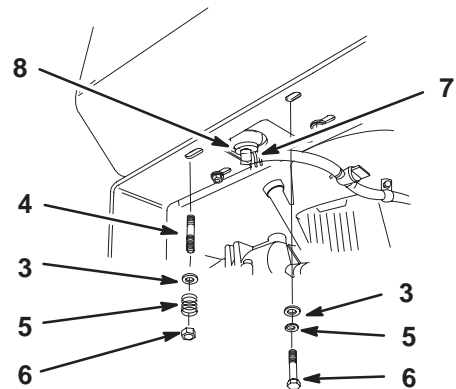

Figure 2
1. Align fuel tank to top of rear frame and secure fuel tank right side with 2 bolts (5/16 x 7/8 in. (22 mm)), 2 lock washers (5/16 in.) and 2 washers (5/16 in.) (Fig. 2).
2. Secure fuel tank left side to frame with 2 studs (5/16 x 7/8 in. (22 mm)), 2 washers (5/16 in.), 2 springs and 2 locknuts (5/16 in.) (Fig. 2).
3. Slide the hose clamp onto the fuel line (Fig. 2).
4. Push the fuel line onto the fuel tank connection and secure it with a hose clamp (Fig. 2).